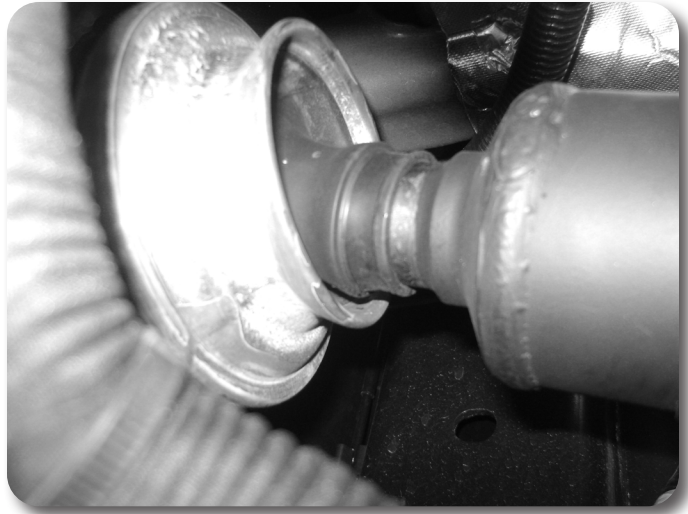

Figure 16
42. Reattach the front driveshaft to the front differential with factory hardware. Tighten to 55 ft-lbs. Remove the factory CV joint clamp at the front transfer case output. Slide the end of the boot up approximately 1/4" and reclamp with new CV joint boot clamp. **Figure 16**